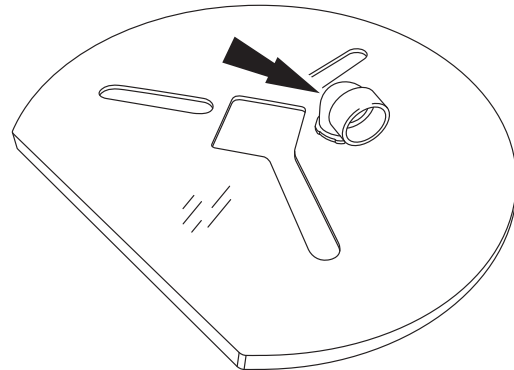

Figure 11
1. Attach the 90° elbow to the polycarbonate panel of the containment hood as shown in Figure 11.